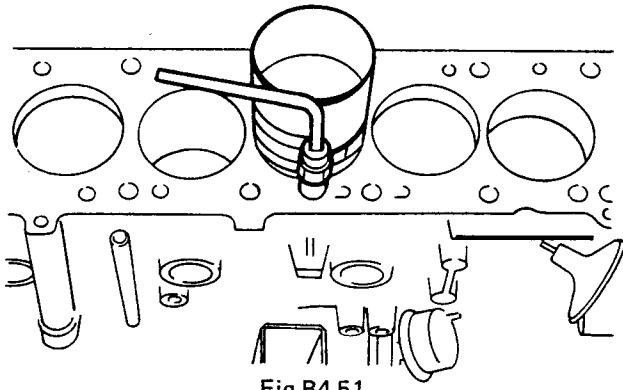

Fig B4.51
- (5) Refer to Fig B4.51. Enter the piston and connecting rod assembly to the cylinder bores from the top, ensuring that the oil jet holes in the connecting rods are facing the distributor side of the engine.
- (6) Gently tap the piston into the cylinder, at the same time checking that the connecting rods are facing the distributor side of the engine.